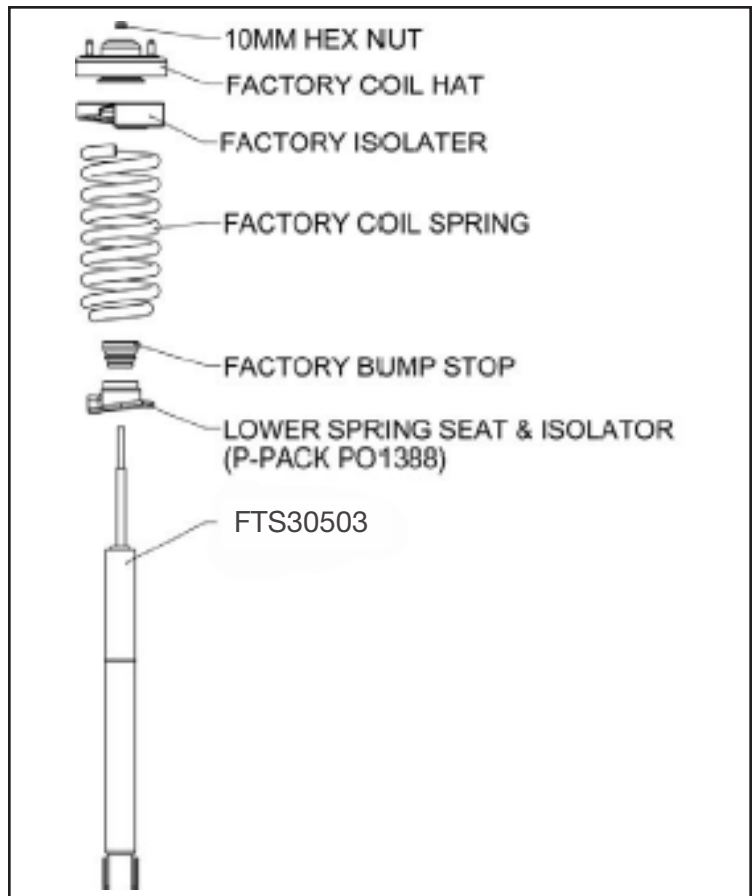

FIGURE 7 - STEP 15
15. Locate FTS30503 new front shocks. Place the factory bumpstop and coil spring, followed by the factory coil hat with the original stem bushing. Using the supplied nylock nut, attach the coil hat to the shock. Torque the nylock nut to 25 ft lbs. **DO NOT USE THE NYLOCK NUT TO COMPRESS THE COIL SPRING, YOU MUST COMPRESS THE COIL SPRING WITH A HEAVY DUTY COIL SPRING COMPRESSOR TO ASSEMBLE THE SHOCK.** Do not reinstall the factory shock boot or any aftermarket shock boot onto the shock. **SEE FIGURE 7**